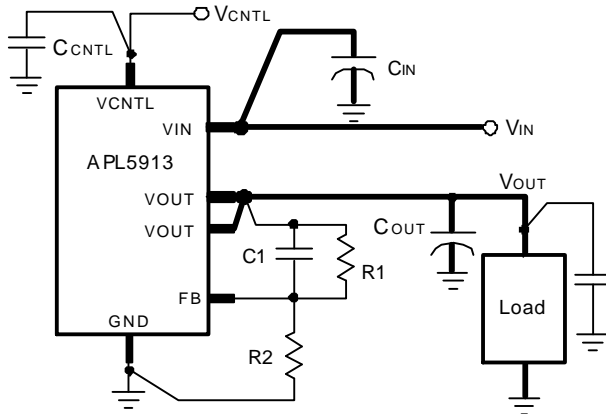

Figure 2
PCB Layout Considerations (See Figure 2)
8. See the Typical Application (see next page Figure 2)